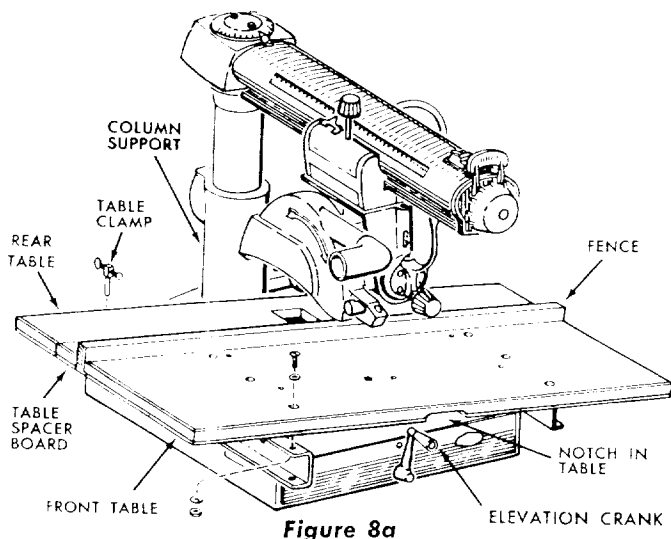

Figure 8a
The saw should be placed on a suitable sturdy work bench and the base positioned so that the elevation crank (figure 8a) is free to rotate. The base of the saw must be mounted flush to a flat surface on the work bench to prevent distortion of the saw base. The nuts, screws, and washers which attach the wooden shipping skids to the saw base may be used to secure the saw base to the work bench.
2. Place large table board on channels with cutout notch forward and down as shown in Figure 8a.